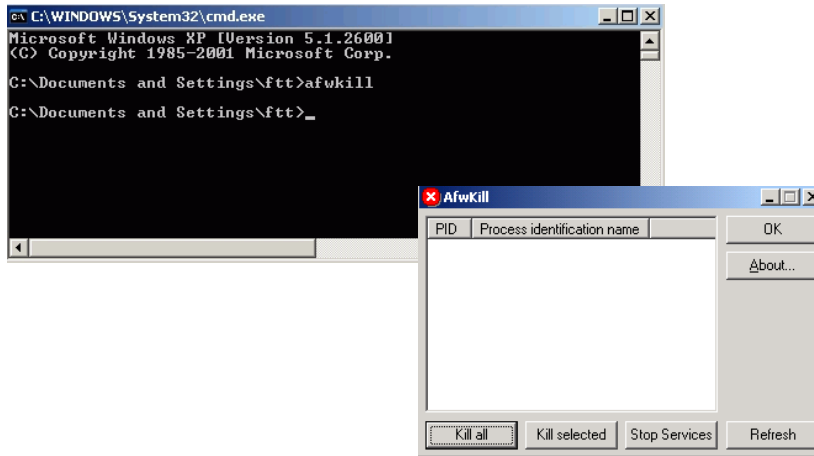

Figure 6. Running the afwkill Utility
- b. Use the afwkill utility (Figure 6) to make sure all processes related to the 800xA System are stopped. From the Windows Taskbar select: